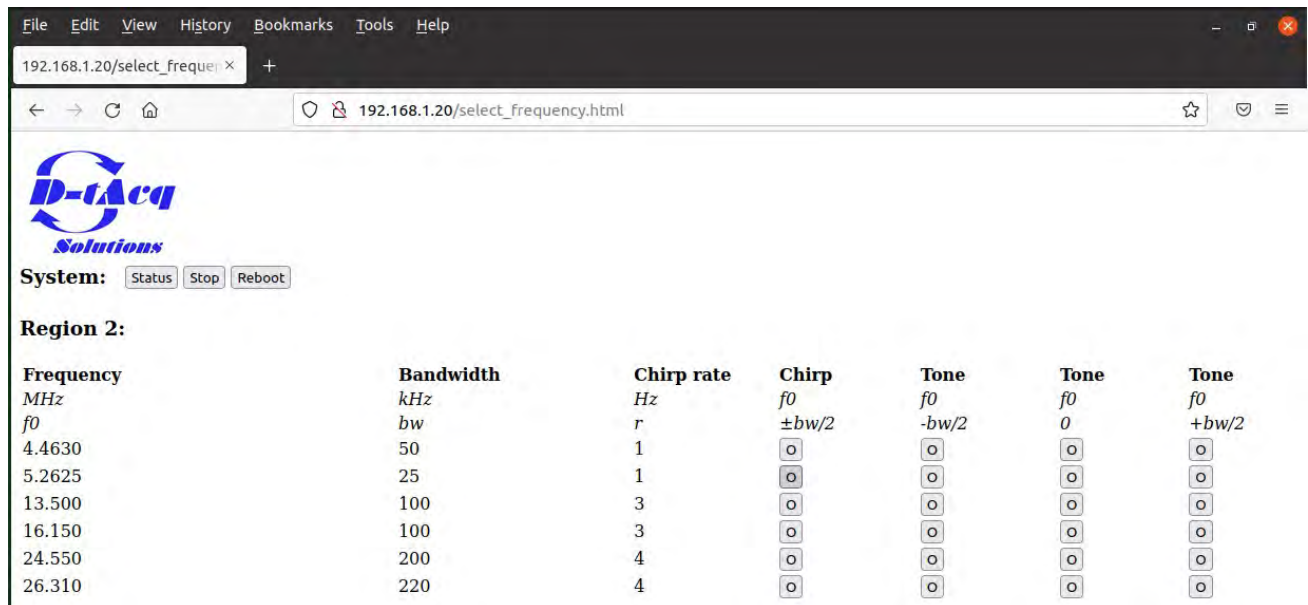
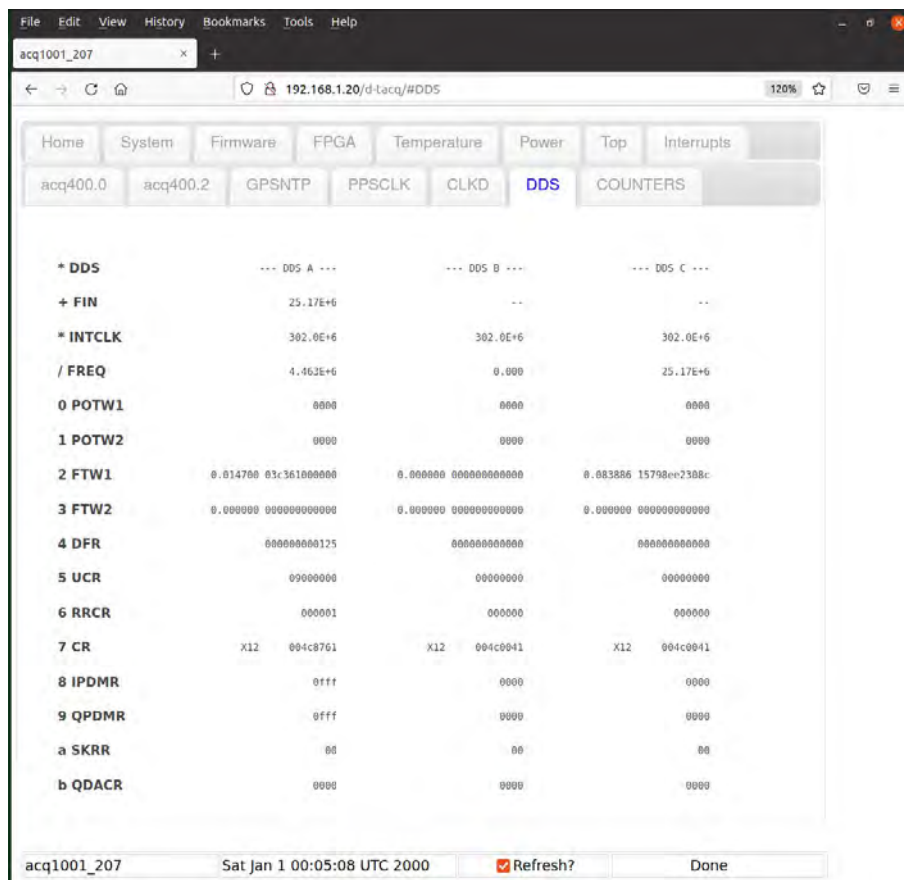

Figure 4. Web interface for programming the synthesizer/transmitter.
Figure 5. Diagnostic page with DDS registers read-back.
The firmware allows programming all operations of the digital synthesizer, including chirping, calibration tones and full-bandwidth call-sign broadcast, using a single ethernet web server interface, configured through the Dynamic Host Configuration Protocol (DHCP; Figure 4). The actual settings of the digital synthesizers are continuously read back from the DDS registers and displayed on a separate diagnostic web page (Figure 5).
7. connect the power adapter of the heat-exchanger shown in figure 5 into a 120 or 240V outlet (the unit auto-detects the voltage).
13. open browser on this IP address, verify that a screen similar to figure 4 is obtained.
14. click on "Status", verify that a popup screen similar to figure 5 is obtained and that the entry shown for ---DDS-A--- under /FREQ displays the expected factory-configured frequency.
1. open a browser on the unit's IP address, obtain a screen similar to figure 4.